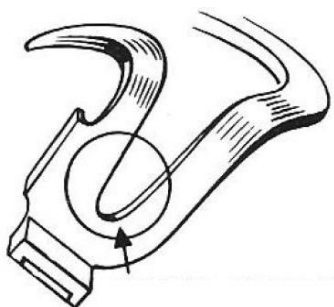

Fig.3.6 Twine guide groove on a Deering-type knotter Knife Arm (*arrowed*)
- N.B.** The Knife Arms of certain Deering-based knotters (*e.g. Hornsby & Albion*) don't sweep across the Bill Hook's heel to remove the twine loop & form the knot. Rather the Knife Arm's motion causes the twine loop to be pulled over the Bill Hook tip because the twine strands run through the twine guide groove in the rear of the Knife Arm (Fig.3.6). Not quite such a positive knot stripping technique, but it works.